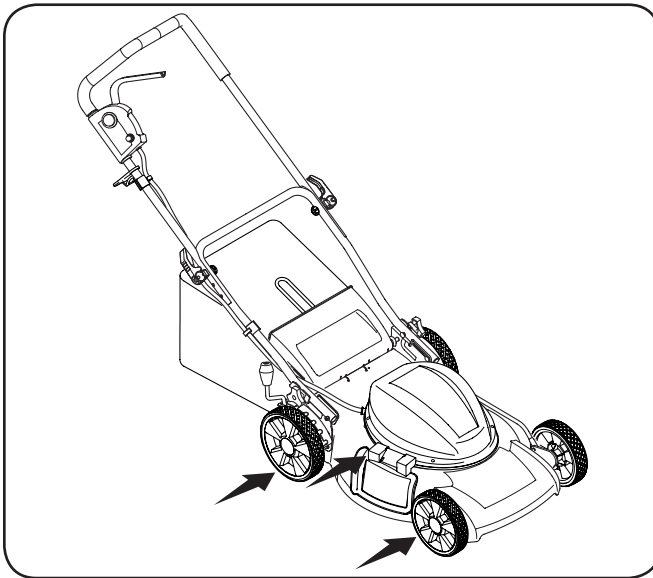

Figure 6-1
1. Lubricate the wheels at least once a season with light oil (or motor oil). If wheels are removed for any reason, lubricate surface of the pivot arm and inner surface of the wheel with light oil. See Fig. 6-1.
2. Lubricate the torsion spring on the side mulch plug periodically with light oil to prevent rust. See Fig. 6-1.